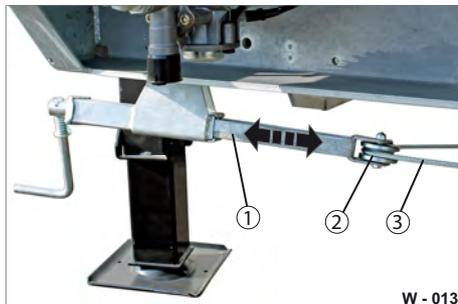

Fig. 13 Lubricating spindle parking brake
- ▶ Check the stroke linkage (Fig. 13/1), guide pulley (Fig. 13/2) and transfer cable (Fig. 13/3) for damage/ deformation/cracks.
- ▶ Lubricate the guide pulley (Fig. 13/2).